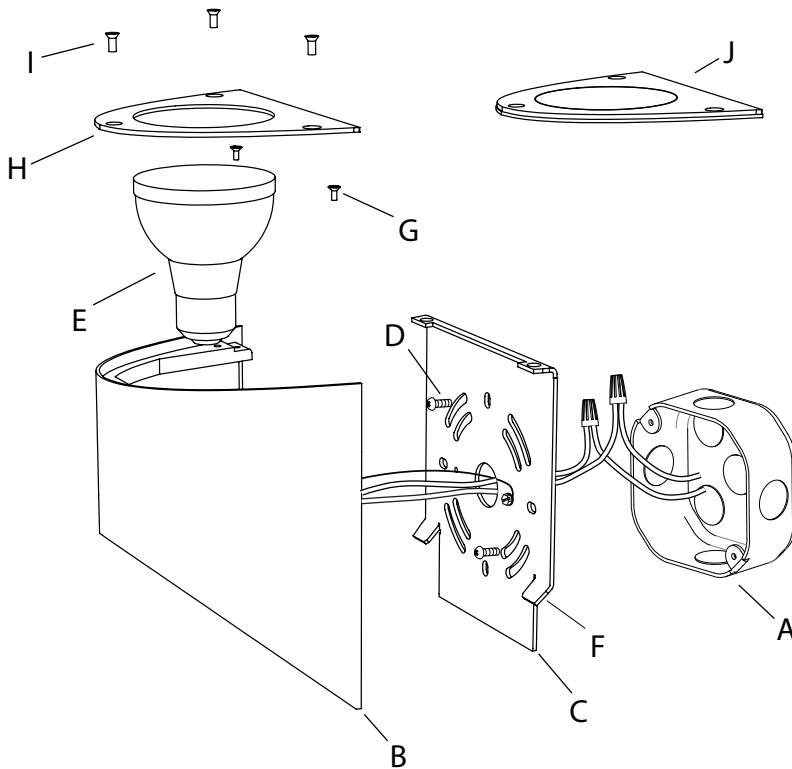
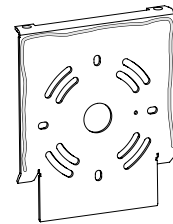
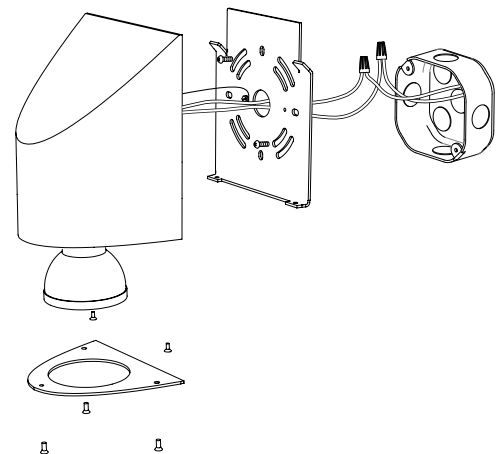

Fig. 1
Fig. 2
Fig. 3
For Wet Location Use: If installing for uplight (Fig. 1), place a bead of silicone or water proof caulk (not included) around the top and sides of the mounting plate (Fig. 2) between the mounting plate and the wall, with a mounting height at least 4' from the ground.
4. Install a medium base PAR20 LED bulb (E) into the fixture (B).
5. Install the fixture (B) to the mounting plate (C) by hooking the two bends (F) onto the tabs in the fixture. Secure with mounting screws (G).
6. Place the cover plate (H) onto the fixture (B), secure with screws (I).
For Wet Location Use: If installing for uplight (Fig. 1), or for downlight (Fig. 3) with a mounting height less than 4' from the ground, use the sealing cover plate (J) with rubber gasket and clear lens. If installing for downlight (Fig. 3) with a mounting height at least 4' from the ground, either cover plate may be used. If sealing cover plate (J) is used, bulb (E) must be a thermally protected LED bulb, e.g. Sora brand.
7. **For Wet Location Use:** If installing for uplight (Fig. 1), place a small bead of silicone or water proof caulk (not included) around the sides and bottom of the fixture (B) where it comes into contact with the wall. If installing for downlight (Fig. 3), place a small bead of silicone or water proof caulk (not included) around the sides and top of the fixture (B) where it comes into contact with the wall.